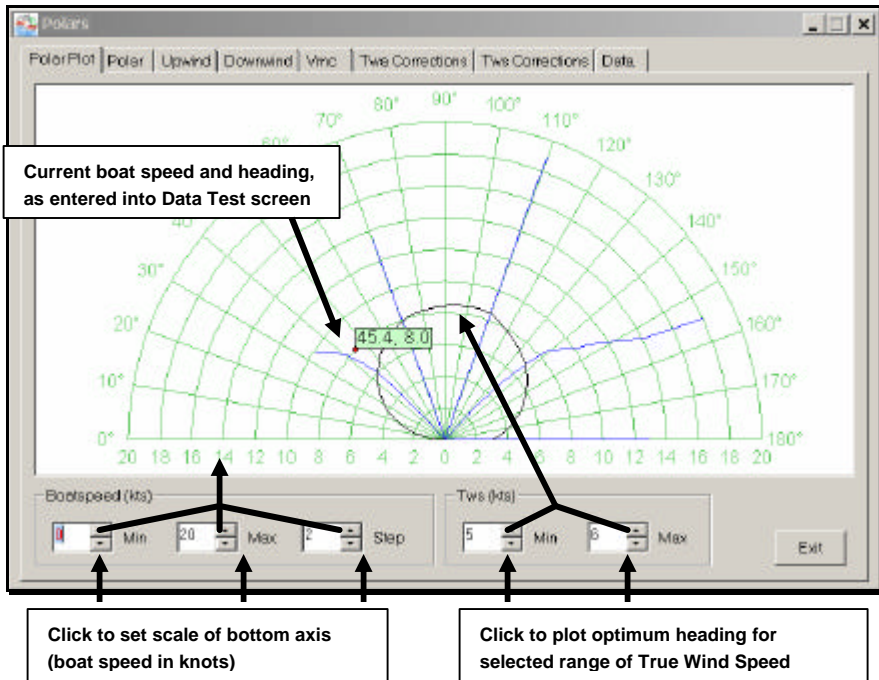

Figure 5-18. Polar Plot Example Screen
3. As shown in Figure 5-18, select the boat speed scale (bottom axis) you want displayed by clicking on the **Boatspeed (kts)** up/down arrows or by entering numbers directly.
**To read a Polar plot, refer to the example in Figure 5-18 and the following plot component definitions:**
- The line that describes a semi-circle (beginning from 0°, 0 Kts on the example plot) plots the optimum heading and resultant speed relative to the True Wind Speed (Tws) range you enter at the bottom of the screen (see Figure 5-18). As you increase the Tws range, additional lines are plotted onto the graph, showing the heading you should take to make optimum progress as wind speed increases. These lines are displayed in black.